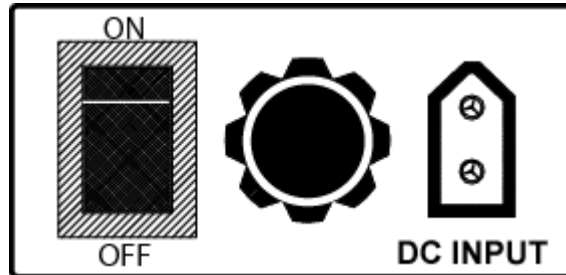

Figure 3.5 – DC Power Entry Module (90IPB)
**Power ON/OFF Switch, Figure 3.5** - A two-position toggle switch on the back panel Power Module that interrupts/completes the power circuit. [ON = ( | ), OFF = ( O )].